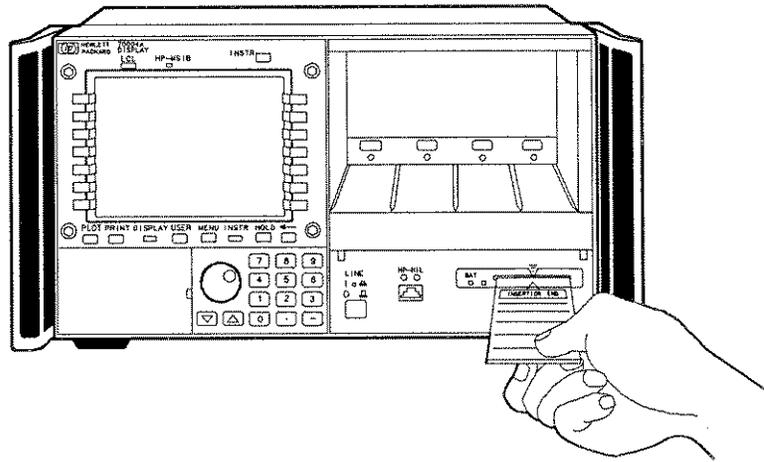

Figure 4-3. Inserting the Memory Card
2. Insert the card with the arrow on the card matching the arrow above the card-reader slot. See Figure 4-3.